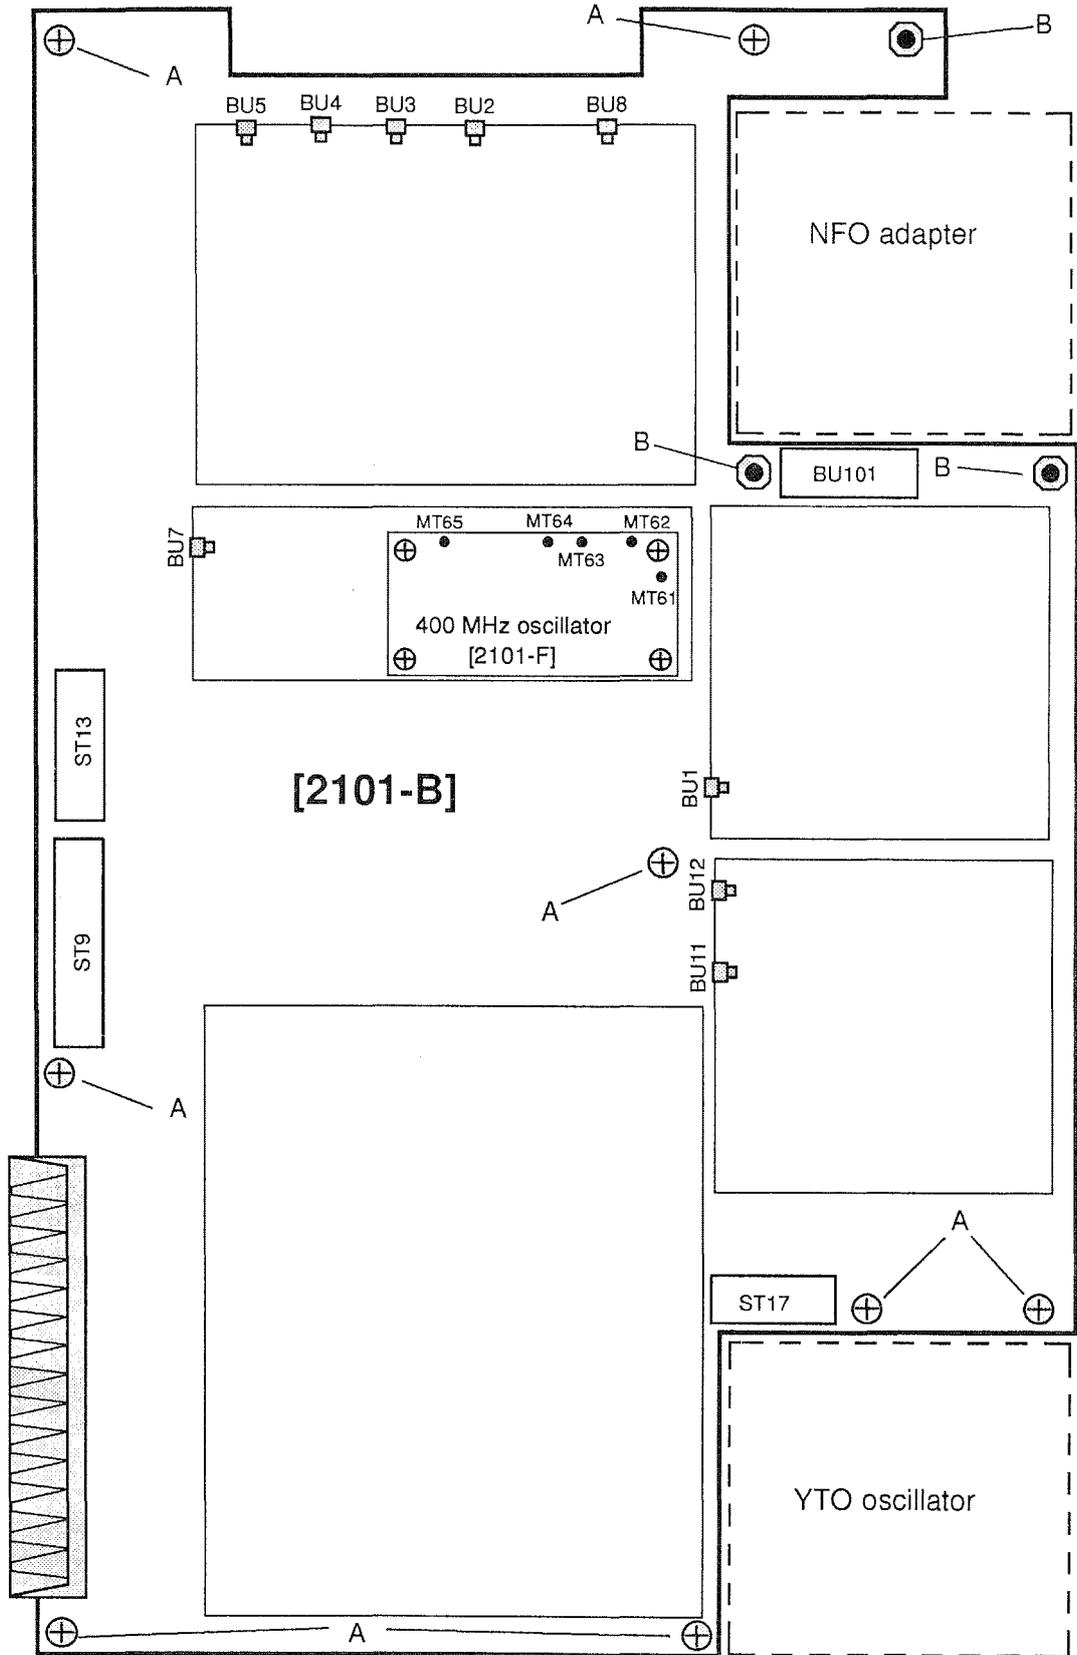

Fig. 3-14 Positions of fixing screws, plugs and sockets on circuit board [2101-B]
- Unplug the following connectors on the synthesizer control board (51) [2101-A]: ST1, ST2, ST3 and ST7
- Unplug ST13 (50ST13) from the time base /YTO driver board [2101-B] (see figure 3-14)
The 10 MHz standard frequency oscillator is mounted (soldered) on the NFO adapter board. The NFO adapter is mounted on the board [2101-B] with three cross-head screws and spacer bolts. Undo the screws (B in figure 3-14) and pull the NFO adapter up to disconnect ST/BU 101.
The time base/YTO driver board [2101-B] is mechanically linked to the control board [2101-A]. All of the screws and electrical connectors which must be undone in order to remove the board are shown in figure 3-14 on page 3-17.
- Remove the eight cross-head screws (M3, screws A in figure 3-14)
- Unplug the MCX plugs from the sockets on the time base/YTO driver board [2101-B] (see figure 3-14):
The 400 MHz oscillator board [2101-F] is mechanically linked to the time base/YTO driver board [2101-B] by four cross-head screws. The position of the board is shown in figure 3-14 on page 3-17. To remove the board, first remove the screening cover from the frame and undo the four cross-head screws on board [2101-F]. The electrical connection to [2101-B] is by means of 5 solder pins (MT61 through MT65 in figure 3-14). Carefully unsolder these pins before removing board [2101-F].